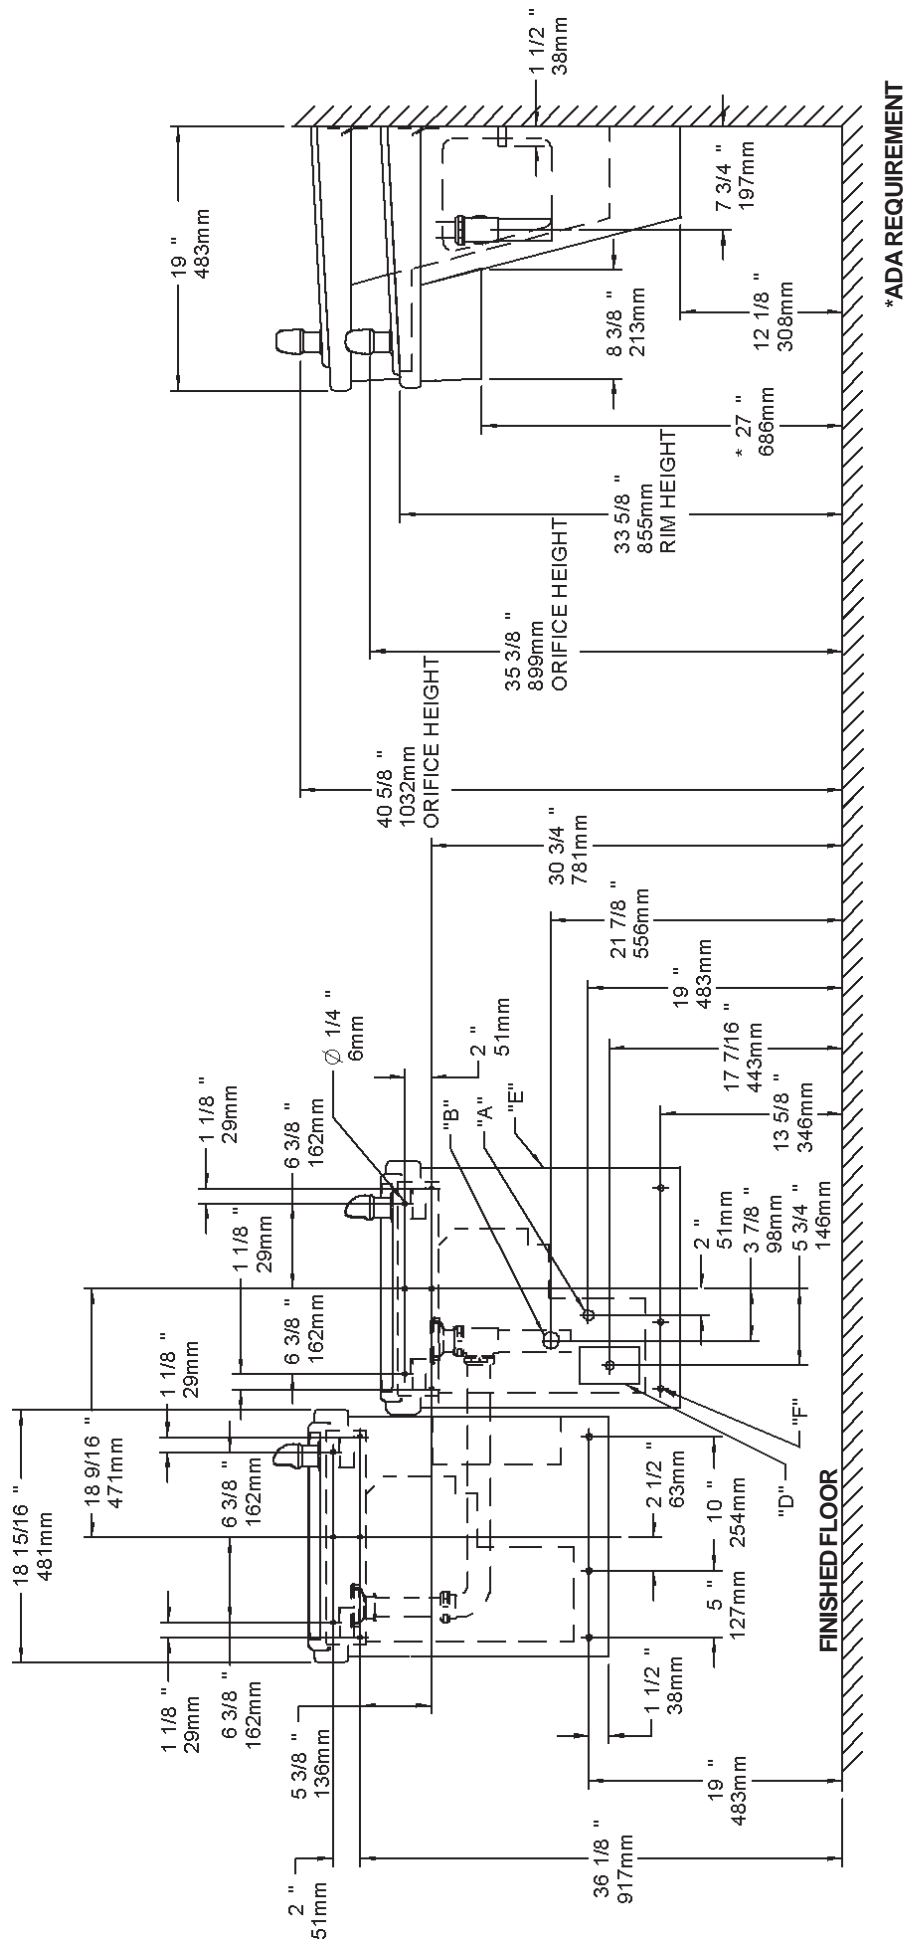

FIG. 2
- 1) Remove hanger bracket fastened to back of cooler by removing one (1) screw.
- 2) Mount the hanger bracket and trap as shown in Figure 2.
- Anchor hanger securely to wall using all six (6) 1/4 in. dia. mounting holes.
- 4) Hang the cooler on the hanger bracket. Be certain the hanger bracket is engaged properly in the slots on the cooler back as shown in Figure 2.
- 5) Loosen the two (2) screws holding the lower front panel at the bottom of cooler base and two (2) screws at the top. Remove the front panel and set aside.